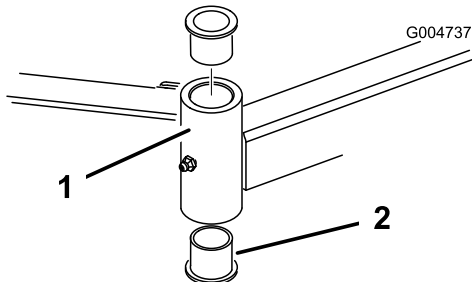

Figure 25
- Insert a pin punch into the top or bottom of the mounting tube and drive the bushing out of the tube (Figure 25). Also drive the other bushing out of the tube. Clean the inside of the tubes to remove dirt.